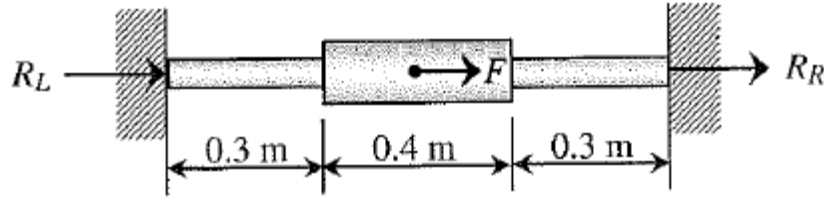

Figure P1.6
6. The stepped bar shown in the **Figure P1.6** is subjected to a force at the center. Use FEM to determine the displacement at the center and reactions. Assume: $E = 100 \text{ GPa}$, area of cross sections of the three portions shown are, respectively, 10^{-4} m^2 , $2 \times 10^{-4} \text{ m}^2$, and 10^{-4} m^2 , and $F = 10,000 \text{ N}$.